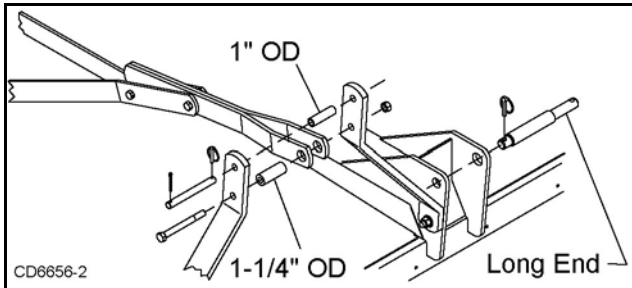

Figure 4. DS120 Category 2 Quick Hitch Connection
1. Position the hitch pins as shown in Figure 4.